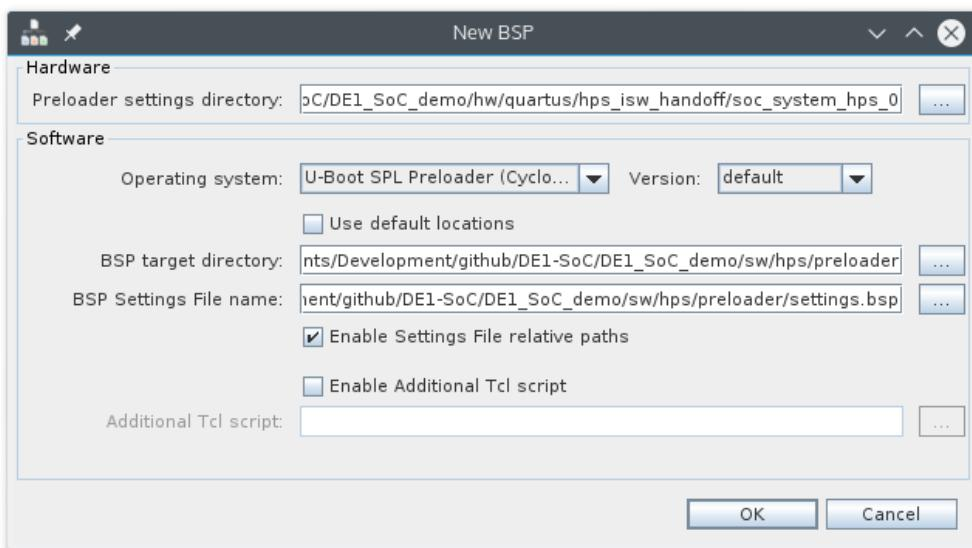

Figure 13-1. New BSP Dialog
- b. Disable the “Use default locations” checkbox and under the “BSP target directory”, select the “DE0_Nano_SoC_demo/sw/hps/preloader” directory. You should have something similar to Figure 13-1.